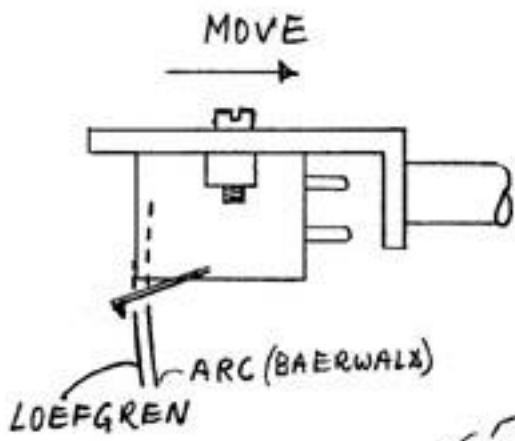

Fig. 2
4. [Fig. 2 & 3] Disengage the anti-skating device on the tonearm (or adjust to zero). Place the WallyTractor on the turntable platter without any record on it. Place the stylus on the arc (straight line for Linear Tracking Arms) at the **“0” position** (top, right corner). Move the WallyTractor as needed and check (with magnifying glass) that the stylus is in the groove of the arc (straight line for Linear Tracking Arms). This is a very important step! Choose either the Loefgren or Baerwald arc for alignment. The Loefgren alignment is recommended for modern records that have the modulated grooves (musical signal) no less than 65-66mm from the center of the record. Next, lift the arm and place the stylus at **position “1”**, near the spindle. **Be careful NOT to shift the WallyTractor or rotate the platter.** If the stylus falls outside of the arc (straight line for Linear Tracking Arms), move the cartridge towards the tonearm pivot (or Linear Bearing) by the same distance that the stylus falls outside the arc. Likewise, if the stylus falls inside the arc (straight line for Linear Tracking Arms), move the cartridge away from the tonearm pivot (or Linear Bearing).